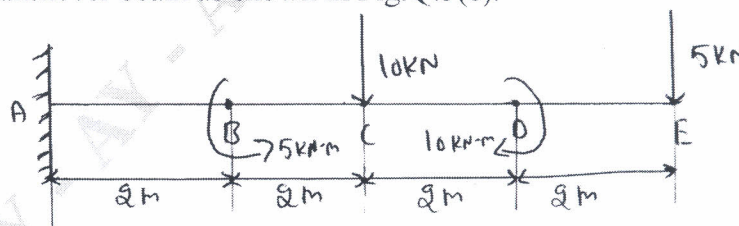

Fig.Q.5(c)
- c. Find the reactions at the fixed end and draw the shear force diagram and bending moment diagram for the cantilever beam as shown in Fig.Q.5(c). (10 Marks)